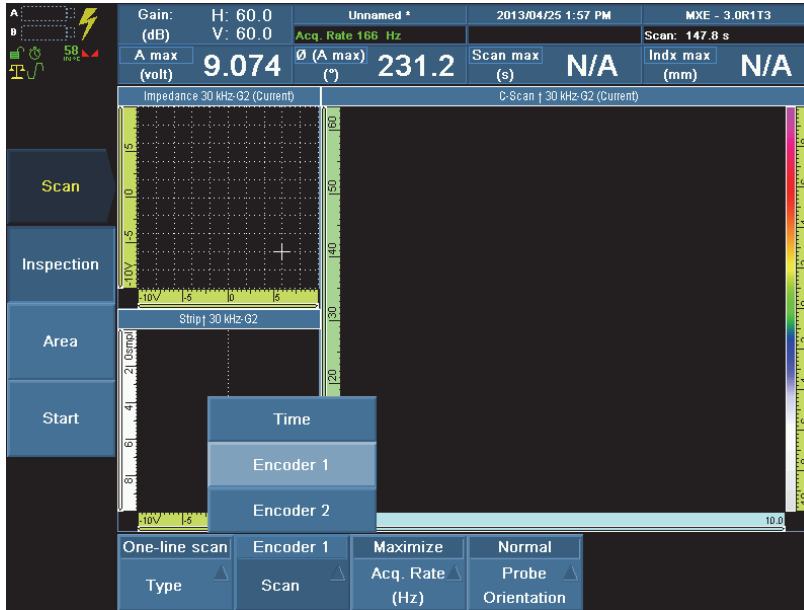

Figure 9-6 Activating the probe's encoder
3. Activate the probe encoder. Select **Scan > Inspection > Time = Encoder 1**, and then press the Accept key to confirm (see Figure 9-6 on page 148).